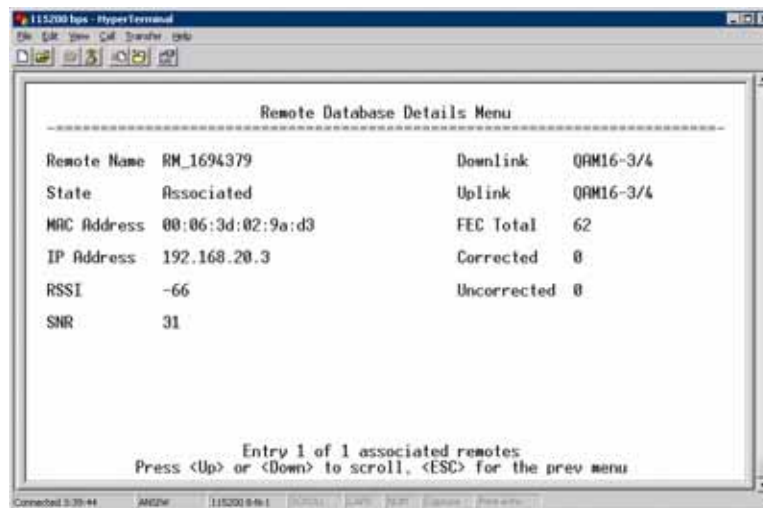

Figure 3-97. Radio Details Menu
- **Radio Details**—This selection presents a screen (Figure 3-97) showing key operating details of the transceiver.